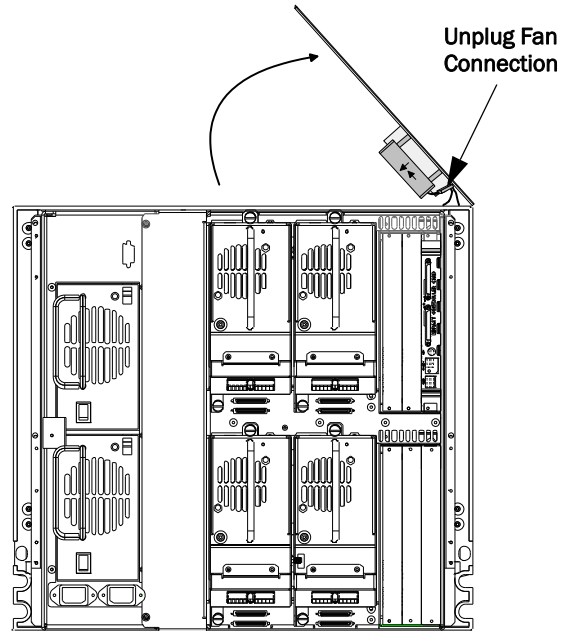

Figure 4. Cooling Fan Disconnect
- Lift the inside edge of the Fan Cover assembly and disconnect the cooling fan (Figure 4).
- a.** Position the Fan Cover Assembly and reattach the cooling fan cable (Figure 4).
- 6.** Turn the Master Power Switch at the rear to On (I) and power on the library.